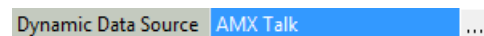

FIG. 195 Dynamic Data Source property indicating "AMX Talk"
4. The selected Data Source file is indicated in the *Dynamic Data Source* property (see "AMX Talk" in FIG. 195):